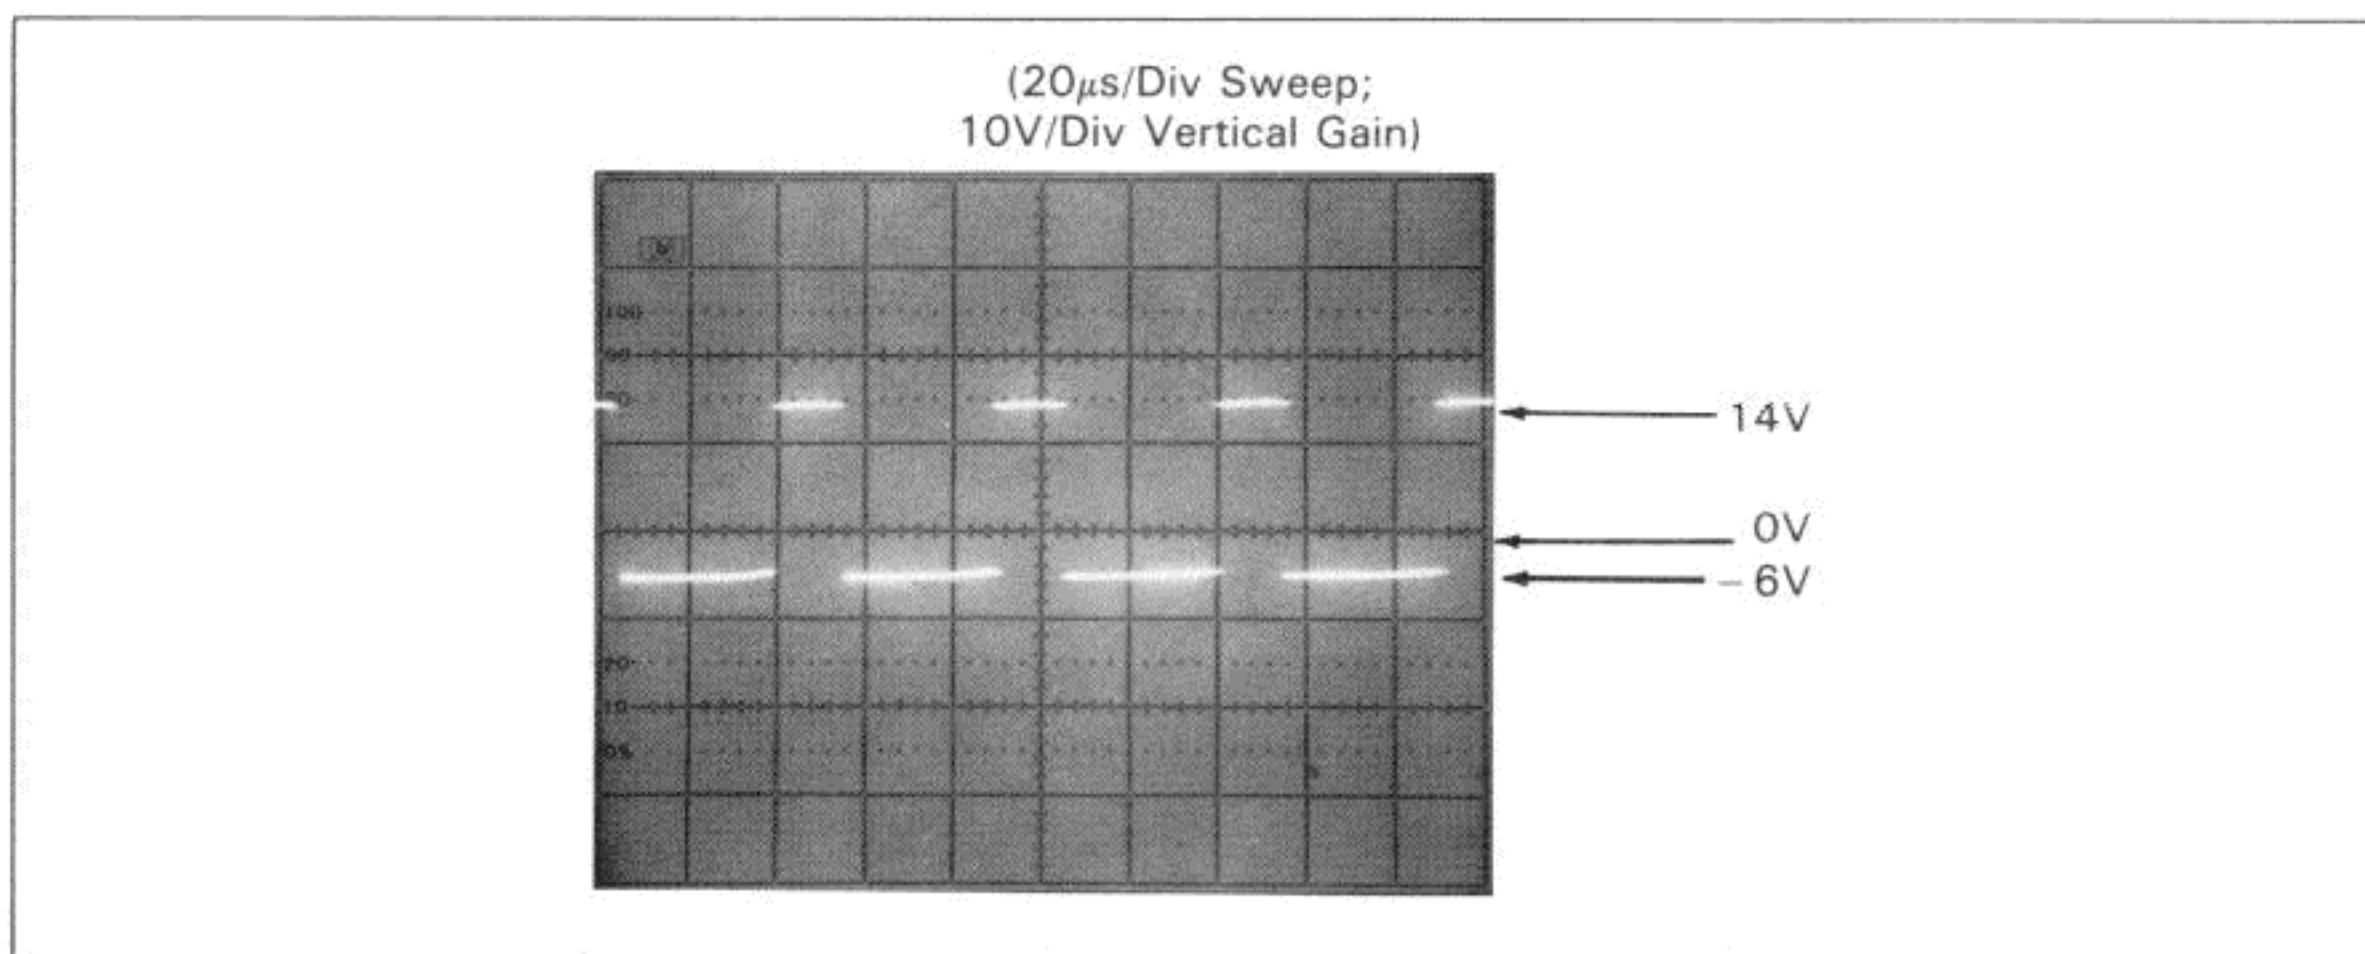

Figure 1-8-F-1. CR712 Anode Waveform
d. Using an oscilloscope set to a sweep time of $20\ \mu\text{s}/\text{div}$ and a vertical gain of $10\text{V}/\text{div}$, check the anode of CR712 for the waveform shown in Figure 1-8-F-1. If it is incorrect, first make sure CR712 is OK. If CR712 is good, replace transformer T701.